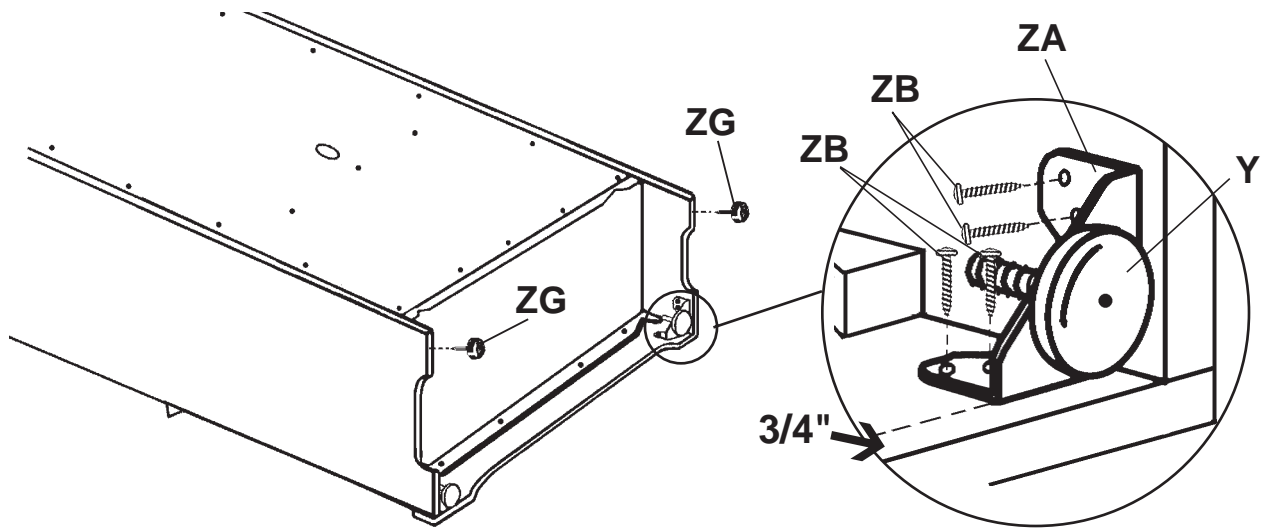

FIG. 6
- 6) Hammer the Tack Glides (ZG) into the side panels near the back. Measure up 3/4" from the bottom of the unit on the back side of the base where it meets the side panel and draw a short line. Lay the Corner Brace (ZA) so that its bottom edge is on the line and screw that brace to the base and side panel with #8x5/8" Pan Head Screws (ZB). See FIGURE 6. Screw Adjustable Glides (Y) into corner braces.